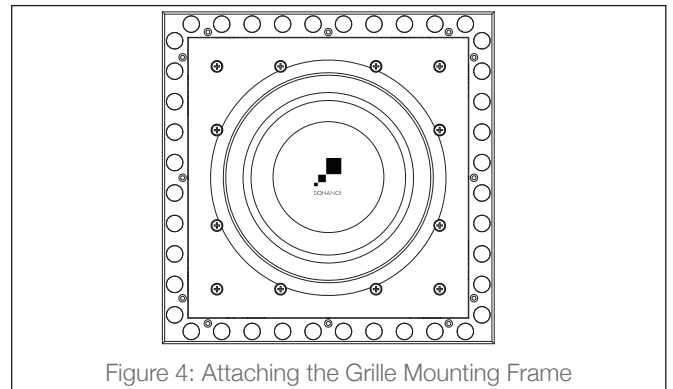

Figure 4: Attaching the Grille Mounting Frame
1. Attach the grille mounting frame to the enclosure using the twelve Phillips head screws (see Figure 4).